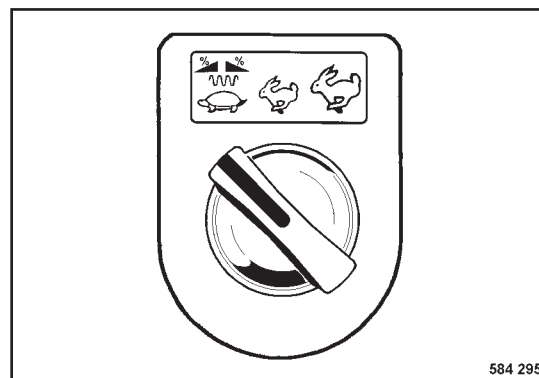

Fig. 48
- Switch to working speed (Fig. 48) (turtle).